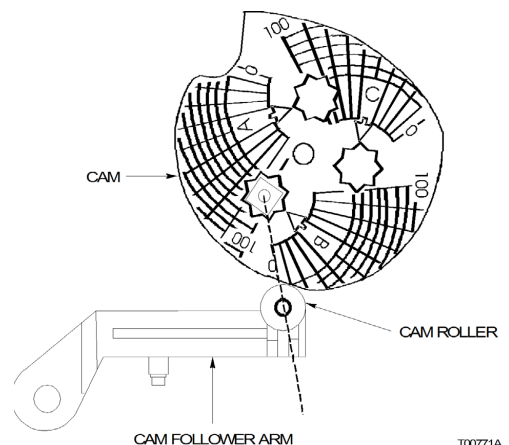

Figure B-4. Cam Roller Alignment
3. With the actuator in the closed position, adjust the connecting linkage so that the zero radial line on the cam intersects the center of the cam roller (Fig. B-4).